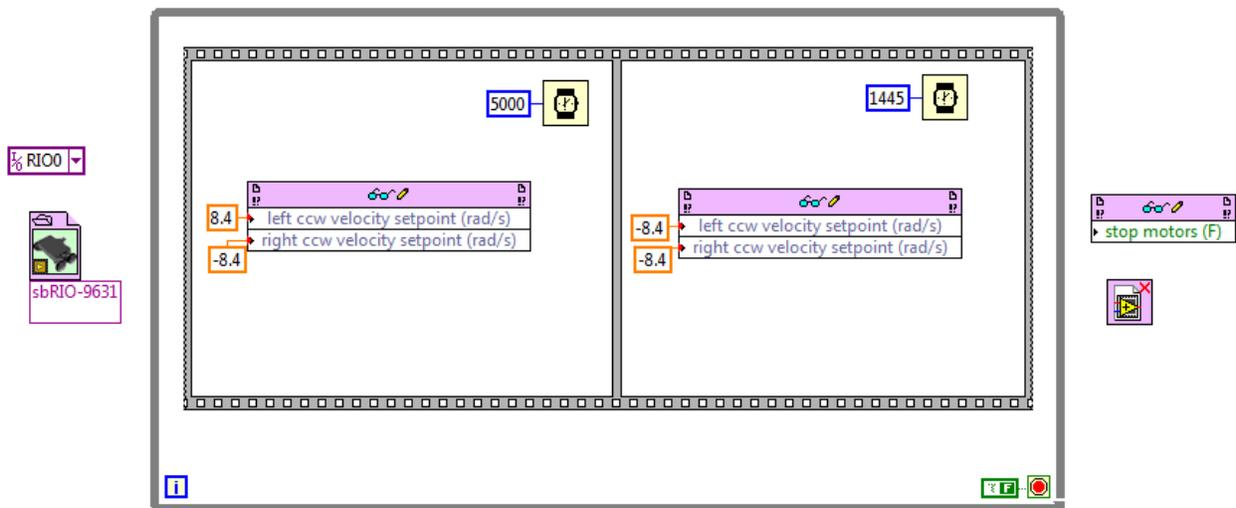

Figure 2.9
**Step 7:** We now need to add values to the read/write controls that control the motor velocity. The predetermined value for the velocity is 8.4 radians/second. In all you will need to create 4 constants and attach them to their specified input. Reference figure 2.9 for correct constant placement. Also note the polarity of the constants. This will determine if the motors are rotating clockwise or counter-clockwise.